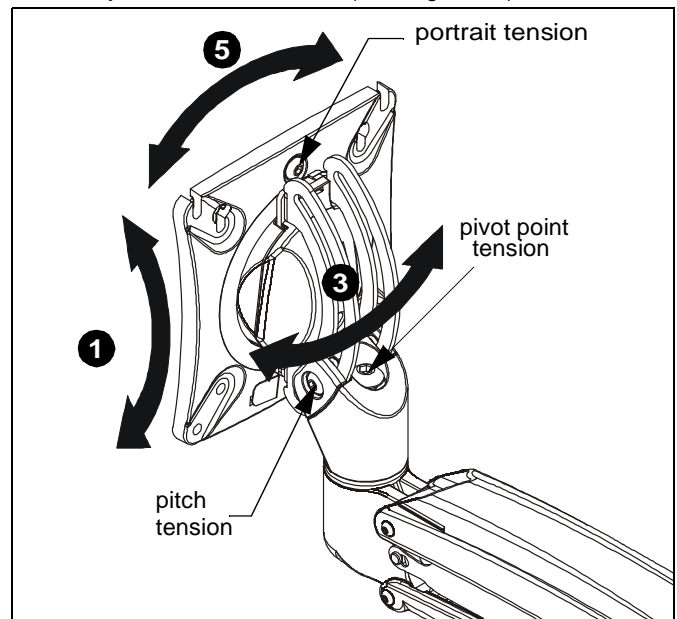

Figure 18
- The monitor may be adjusted 90 degrees in either direction in order to provide a portrait view of the monitor. (See Figure 18)
- Use 3/16" hex key (K) to adjust rotational adjustment screw to adjust rotational tension. (See Figure 18)